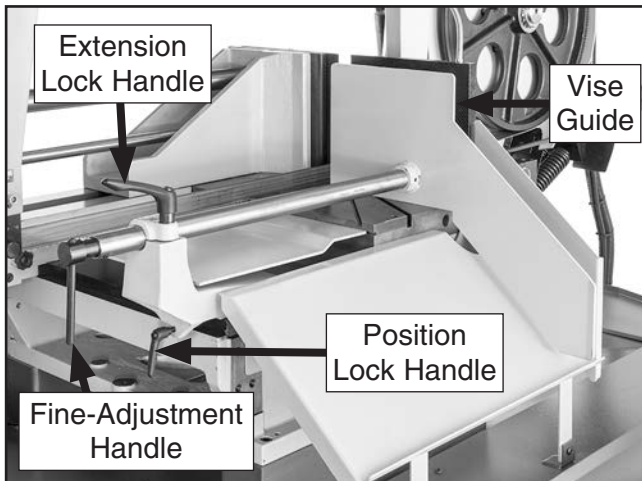

Figure 52. Support vise guide adjustment controls.
The support vise guide provides workpiece support on the outfeed side of the cut, guiding cut-off pieces down the cutoff chute. The support vise guide should be adjusted when the cut had been planned and the workpiece has already been clamped in the vise. Use the adjustment controls (see **Figure 52**) to support the workpiece close to where the blade will contact it.
1. Loosen position lock handle (see **Figure 52**).
2. Move vise guide close to planned cut on vise track (see **Figure 52**).
4. Loosen extension lock handle (see **Figure 52**).
5. Adjust support vise guide until it contacts workpiece (see **Figure 52**).
7. Tighten fine-adjustment handle until plate is secure against workpiece (see **Figure 52**).